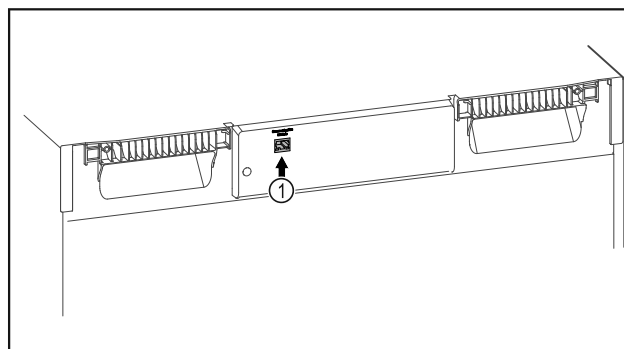

Fig. 127
- SmartModule Fig. 127 (1) is in use.